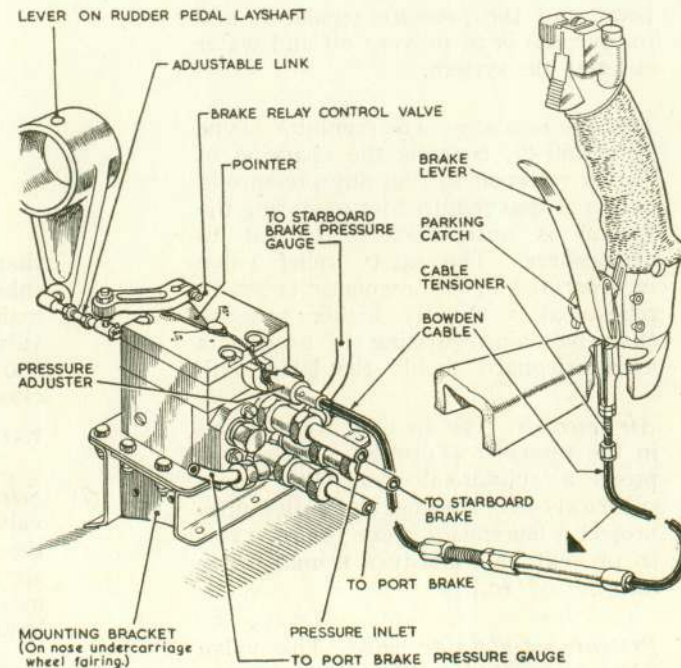

Fig. 3. Brake lever and relay valve
Brake lever and relay valve	Fig. 3
6. The pneumatic components must be inspected at the periods laid down in the relevant servicing schedule and any adjustments or replacements made. The brake cable must be lubricated periodically (fig. 3).
- (1) *Air filter.* The lock-nut and drain plug must be slackened off periodically to allow the foreign matter to drain from the base of the filter.
- (2) *Pressure-reducing valve (brakes).* If it is necessary to re-adjust the setting, the valve must be removed from the aircraft and adjusted on a test rig. The inlet and outlet connections are marked on the valve body and it is essential that these should be correctly fitted when the valve is assembled to the pneumatic panel.
- (3) *Brake control unit (fig. 3).* Differential control of the brakes is obtained by adjusting the unit as follows:—